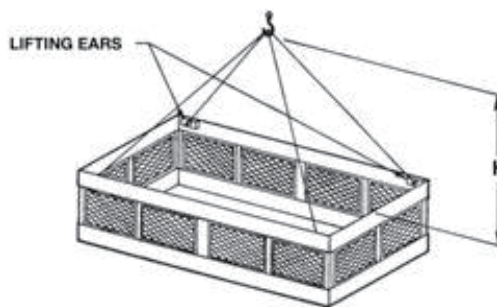

Figure 6
- ① Confirm that bolt is securely fastened comming every single tower parts.
- ② Do the inspection of the fan. (Structure of the fan is shown in Fig. 6.)